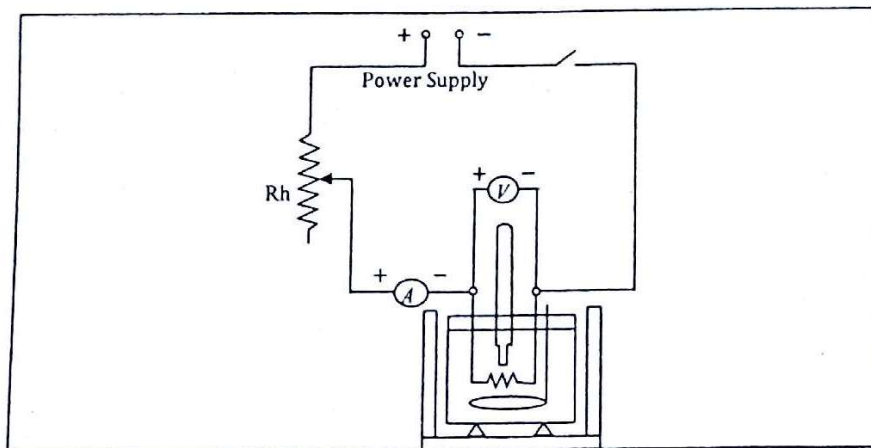

Fig. 7.1: Experimental setup for measuring the mechanical equivalent of heat
The mechanical equivalent of heat J is the amount of electrical energy required to generate one calorie of heat. If E volt be the potential difference across a conducting coil (Fig. 7.1) and i ampere be the current flowing through the coil for t seconds, then the electrical energy in the coil is Eit . If this energy is converted into heat H (calories) then the mechanical equivalent of heat J is
2. Pour water into the calorimeter which is just sufficient to dip the heating coil and the bulb of the thermometer. Then measure the total mass (m_2) of the calorimeter, stirrer and water. Calculate the mass (M) of water.
4. Complete the circuit as shown in Fig. 7.1. Switch on the circuit temporarily and adjust the control knob of the power supply until the current is about 2 amperes. Then switch off the circuit and stir the water until a steady temperature is shown by the thermometer. Record this temperature as initial temperature.